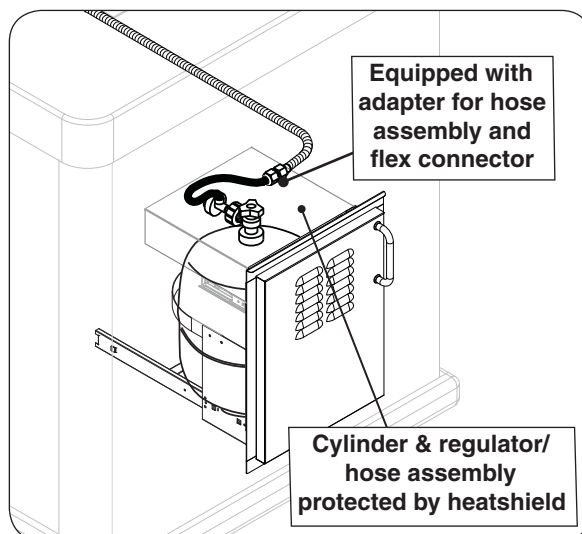

Fig. 12-3 Optional RHP door w/ tank tray
- **RHP offers a propane cylinder door with tank tray to meet the cylinder install requirements. See Fig. 12-3.**